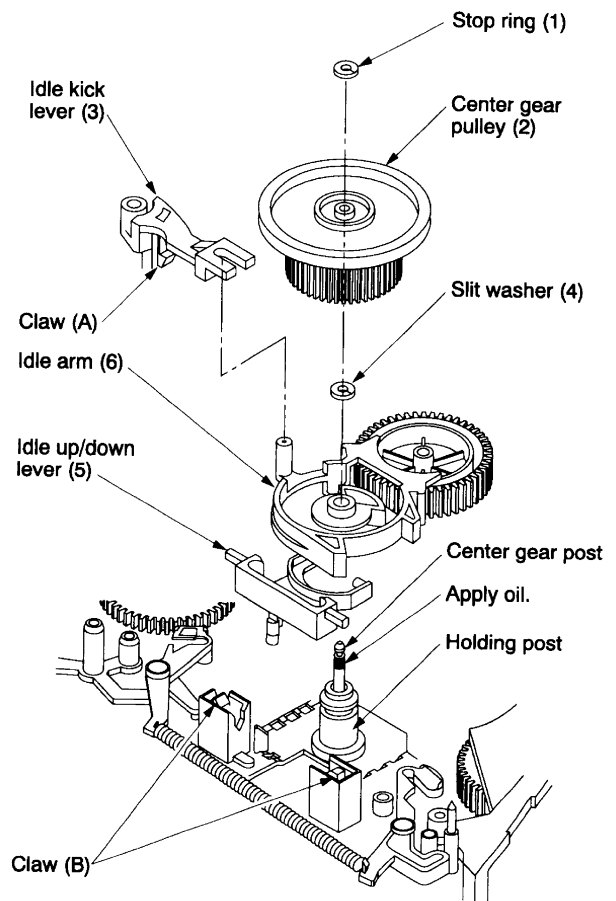

Fig. 2-1-57
- When mounting, push the cutout (A) on the holder center post assembly (2) aligning with the projection on the mechanical deck.
- Before mounting the center gear pulley, apply a few drops of oil. (Refer to Fig. 2-1-57.)